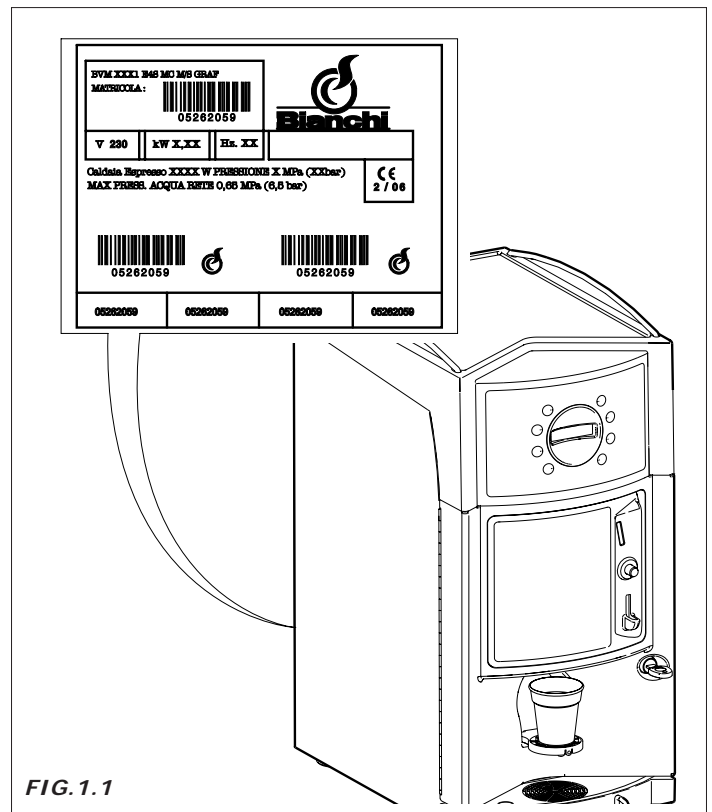

FIG. 1.1
- The data registered on the serial number label (Fig. 1.1)